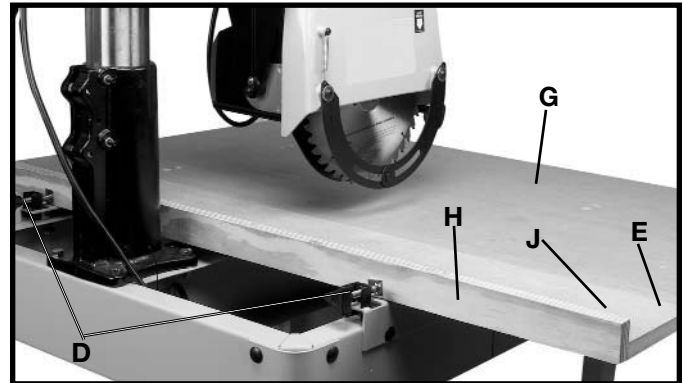

Fig. 31
3. Place 1-1/4" wide board (E) Fig. 31, against front table board (G), and 5-3/4" wide board (J) against 1-1/4" wide board (E), place the 1-3/4" wide board (H) in the upright position against the 5-3/4" wide board (J) as shown. Then tighten knobs (D), until the table boards are securely clamped in position.